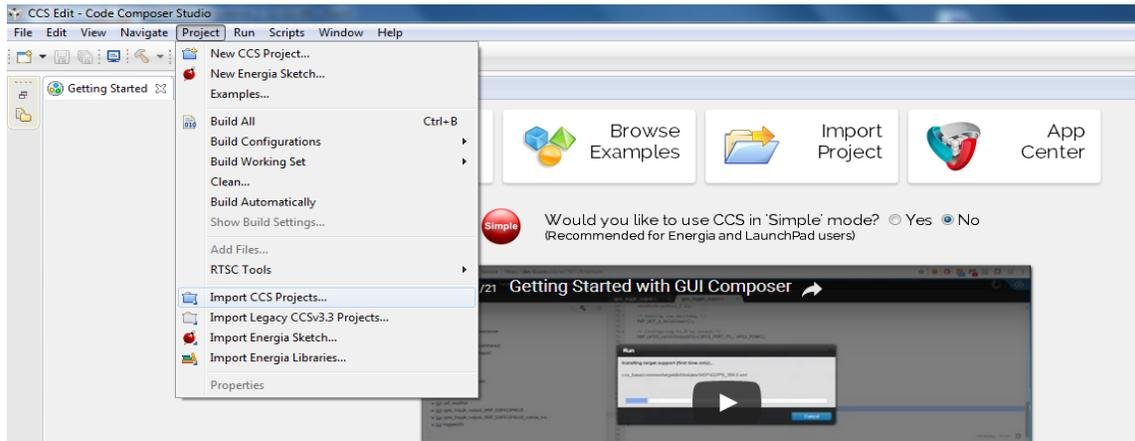

Figure 27, Import CCS Project tab.
- c. In the Project menu tab click “Import CCS projects...” (Figure 27).